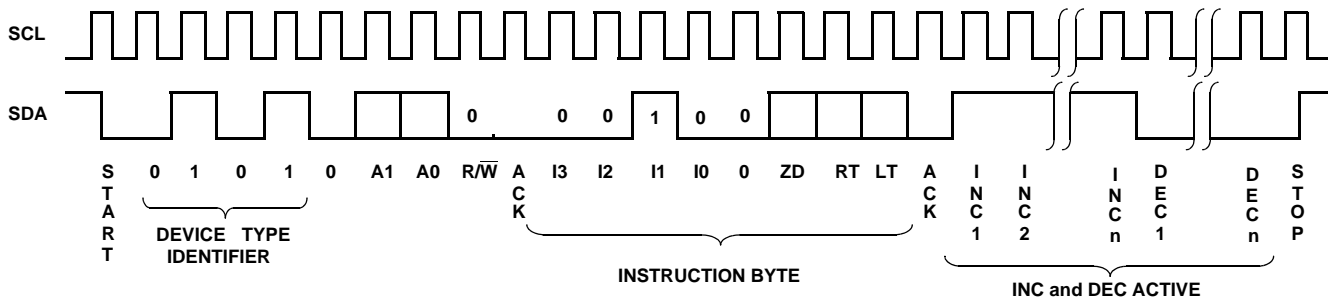

FIGURE 7. INCREMENT/DECREMENT COMMAND SEQUENCE (WRITE)
**Increment/Decrement Instruction.** The Increment/Decrement command is different from the other commands. Once the command is issued and the X9460 has responded with an acknowledge, the master can clock the selected wiper up and/or down. For each SCL clock pulse ( $t_{HIGH}$ ) while SDA is HIGH, the selected wiper will move one resistor segment towards the  $R_H$  terminal. Similarly, for each SCL clock pulse while SDA is LOW, the selected wiper will move one resistor segment towards the  $R_L$  terminal. A detailed illustration of the sequence and timing for this operation are shown in Figures 7 and 8 respectively.